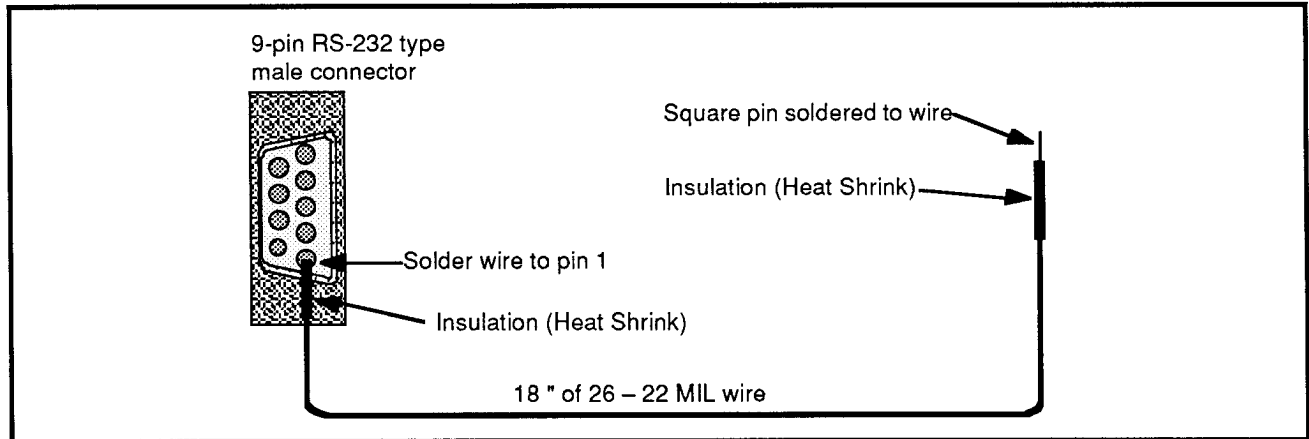

Figure 4-19. Detector test cable construction.
- Test Cable (See Figure 4-19)
f. Enable the broadcast (AM) video mode by pressing DEMOD/TG 3, and set the LEVEL control for minimum flicker in the displayed picture.